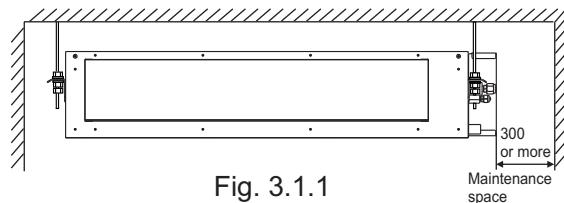
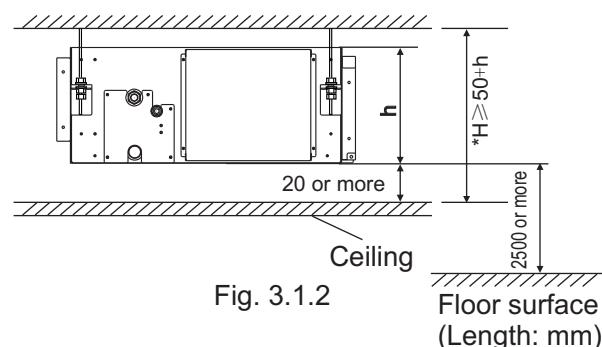

Fig. 3.1.1
Fig. 3.1.2
- Sufficient clearance for maintenance and servicing is ensured.(See Fig.3.1.1,Fig3.1.2)